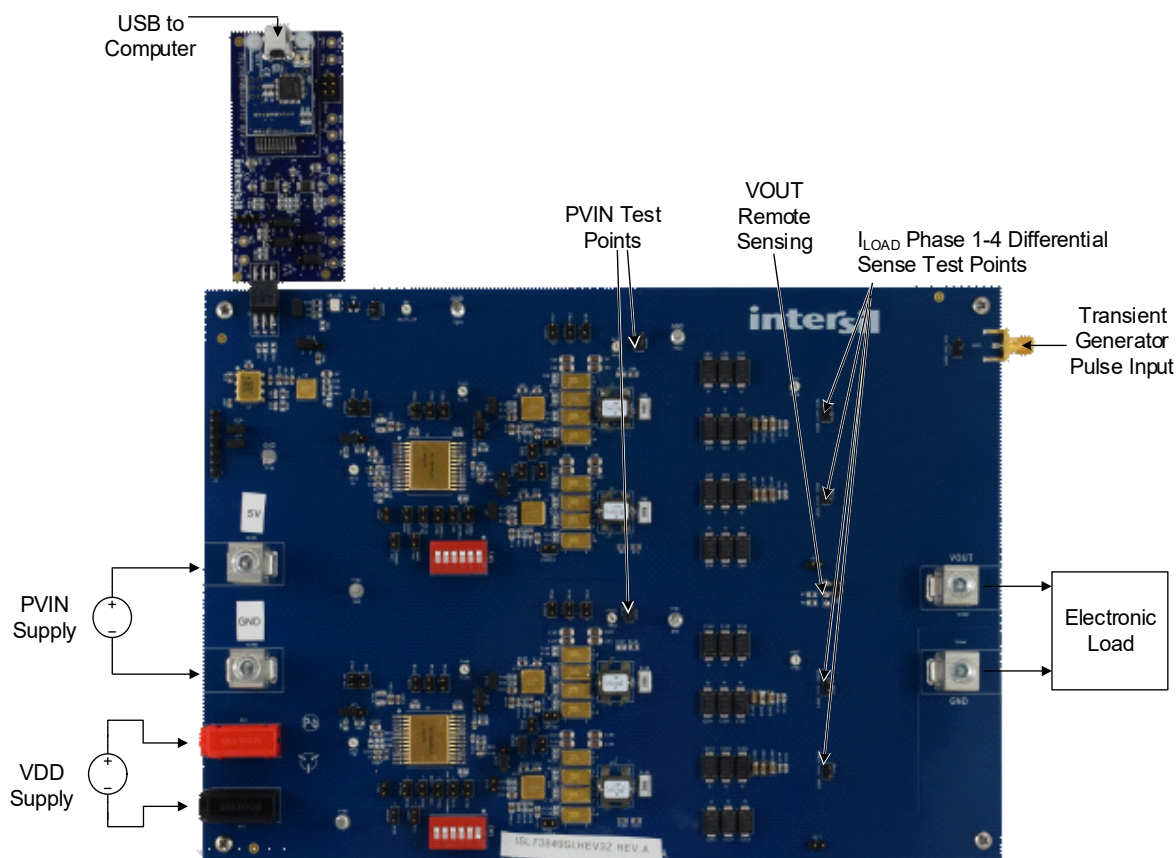

Figure 4. ISL73849SLHEV3Z Board Setup
8. Connect the ISLUSBPMBADAPT3ZA as shown to the J2 connector as shown in Figure 4.
10. Apply a 5V voltage to the PVIN metal banana plug connectors as shown in Figure 4. To monitor PVIN on the board, use TP27 or TP65. TP27 is closer to Phase 1 and 3, TP65 is closer to Phase 2 and 4.
11. Apply a 9V to 13.2V voltage to the VDD banana connectors as shown in Figure 4 to use the on-board clock generator. If using an off-board external clock generator, VDD can be 5V to 13.2V.
12. If required, a resistor or electronic load can be connected to the VOUT metal banana plug connectors as shown in Figure 4. If using an electronic load, you can add 4W sense lines or a multimeter to on the TP29 test jumper.